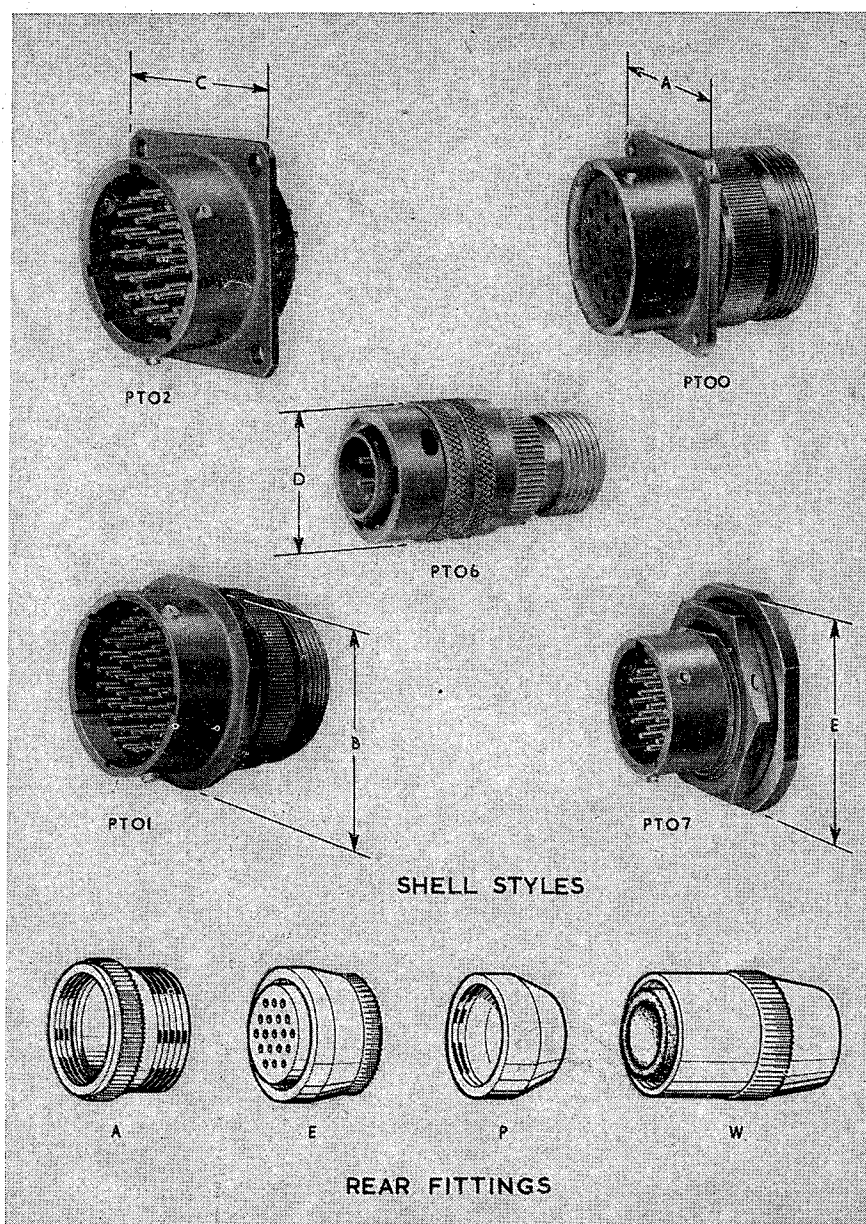

Fig. 2 Styles and types of shells
3. The aluminum shells are supplied as wall mounting receptacles, cable connecting receptacles, box mounting receptacles or jam nut receptacles. In addition a pressurized through-bulkhead receptacle is available to provide for disconnecting circuits from both sides of a panel. The straight plug will mate with any of these receptacles. All these are illustrated in fig. 2 and listed under significance of part numbers in para. 10. Each of the shell styles is available in four types to suit environmental conditions. The differences between the four types are in the cable fittings on the rear of the assembly, and with the pressurization of the contacts and inserts within the shell. These types are illustrated in fig. 2 and listed in Table 1.
(see fig. 2)